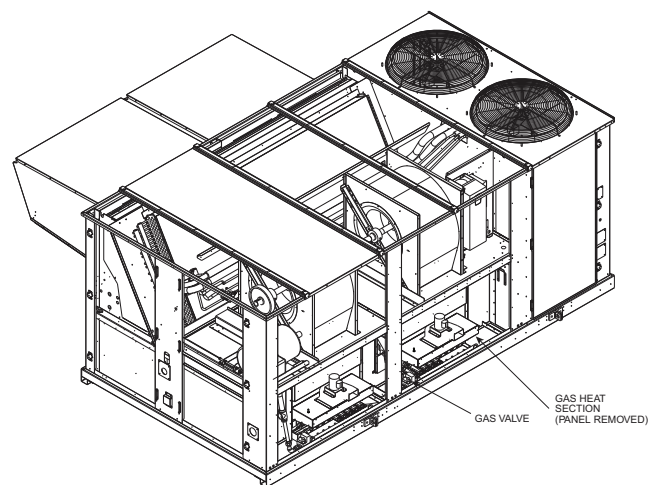

Fig. 14 — Gas Heating System Access
6. Remove the heater access panels. See Fig. 14 for gas valve and gas heat section location.
7. Locate the two (20-50 ton units) or three (60 ton units) gas valves in the unit. Refer to Fig. 14 and 15 for gas valve location.